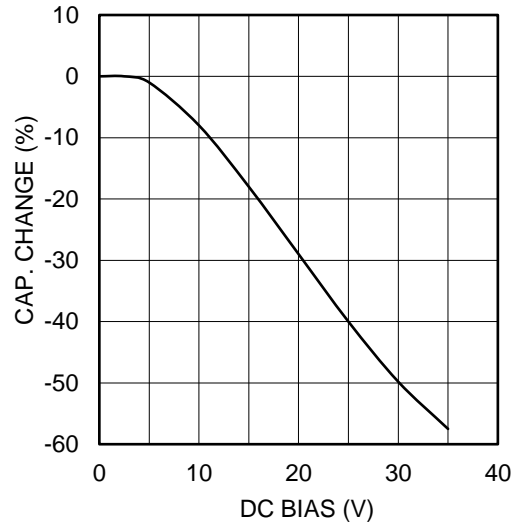

Figure 4. DC bias characteristic
Capacitance value reduces when DC bias at both sides of ceramic capacitor increases. Figure 4 shows the DC bias characteristics (by Murata Manufacturing Co.).
Next, calculate input ripple voltage by substituting each parameter to equation (2). At this point consideration for DC bias characteristic of ceramic capacitor is necessary. In this example, since the maximum voltage impressed to capacitor is 28V, 48% will be reduced from rating capacitance value as from Figure 4. Also, ESR of ceramic capacitor is 2mΩ.